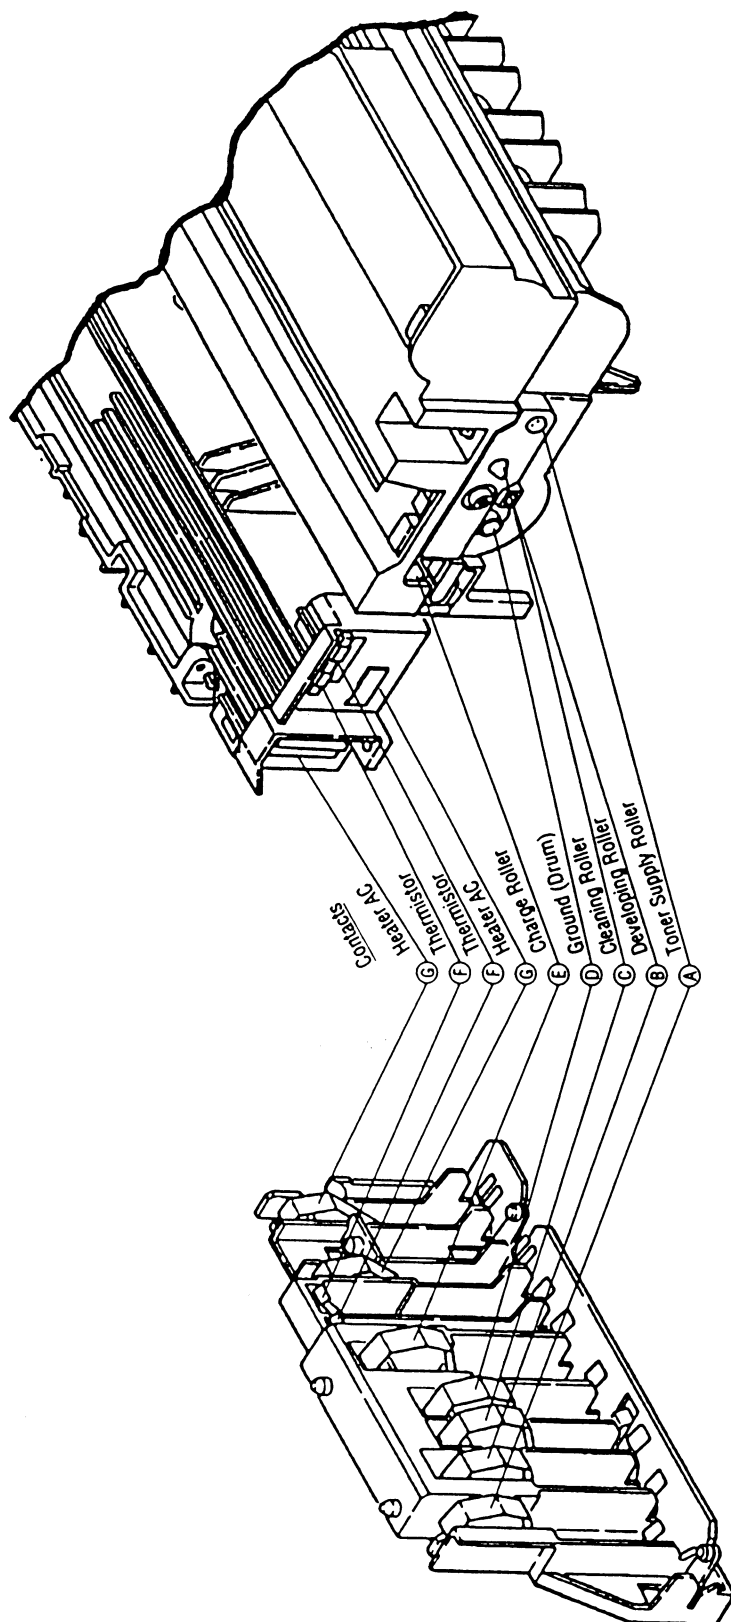

Figure 6-4
• No Do the thermistor contacts touch the contact assembly properly when the fusing unit is mounted in the printer (see Fig. 6-4 contact ⑤)?
• Yes Check the heat contact of the fusing unit and the contact assembly for poor contact (see Fig. 6-4 contact ③).